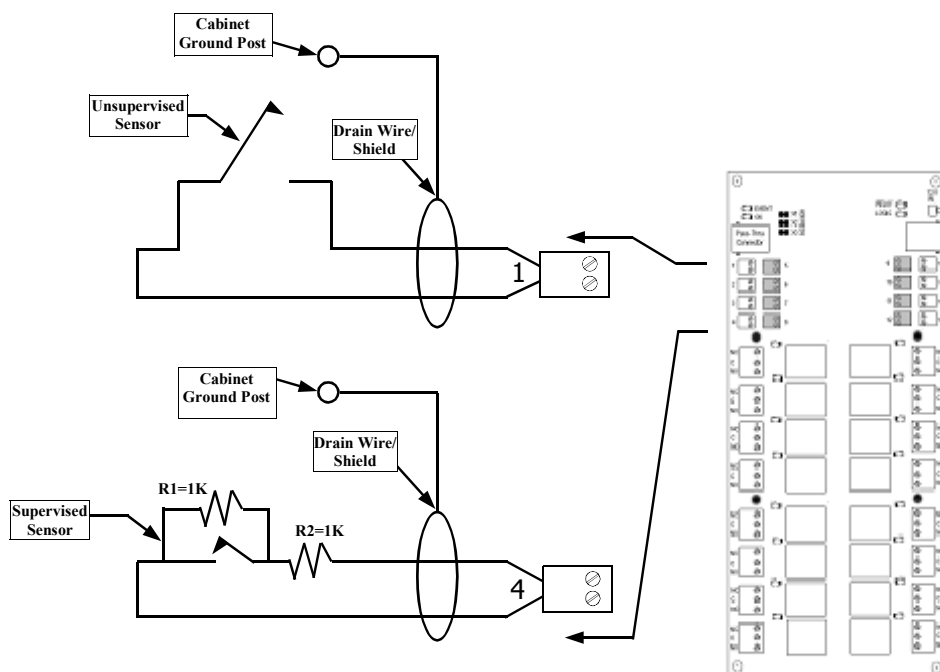

Figure 10 - ALARM Terminal Strip - Unsupervised and Supervised Alarm Connections
2. Install R1 in parallel with the alarm contacts (see Figure 10).